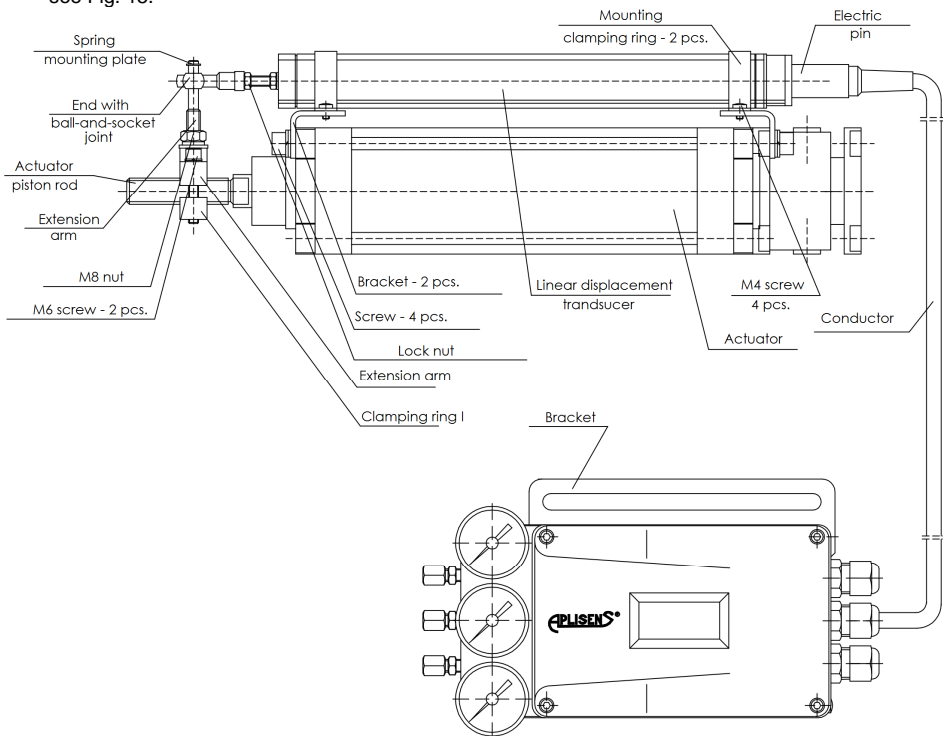

Fig.15. Assembly of the APIS-101-... and APIS-201-... positioner with linear actuator of one-sided and double-sided operation.
- a) Install extension arm with clamping ring I on the actuator by screwing home tightly 2 (two) M6 screws – see Fig. 15.
- d) Couple extension arm with ball-and-socket joint which is already mounted on the displacement transducer. Adjust length of the extension arm so as to after mounting of displacement transducer on the actuator, you will be able to install mounting spring plate as shown on Fig. 15.